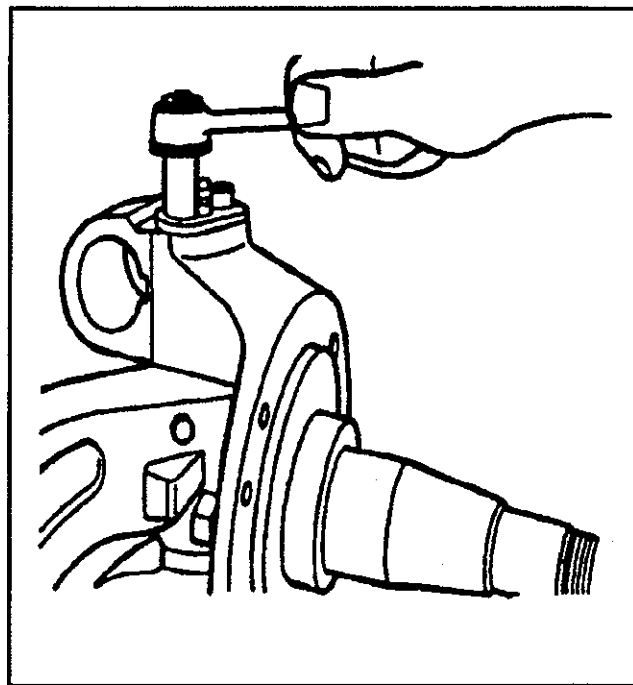

Figure 8—Removing Steering Knuckle Cap
11. Remove the top and bottom steering knuckle caps. (See Figure 8—Removing Steering Knuckle Cap.)